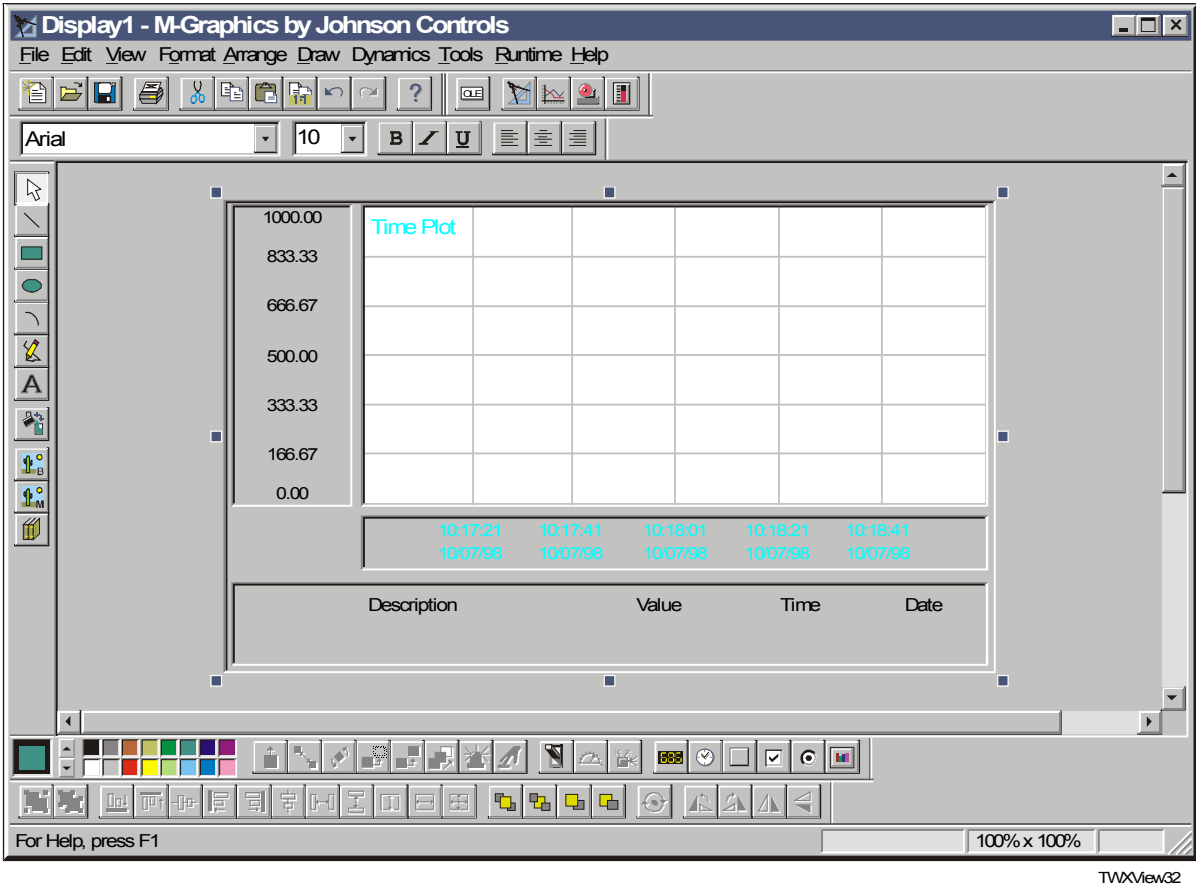

Figure 14-5: TWXView32 Control in M-Graphics Display
3. Click OK. A TWXView32 control is added to the display (Figure 14-5).